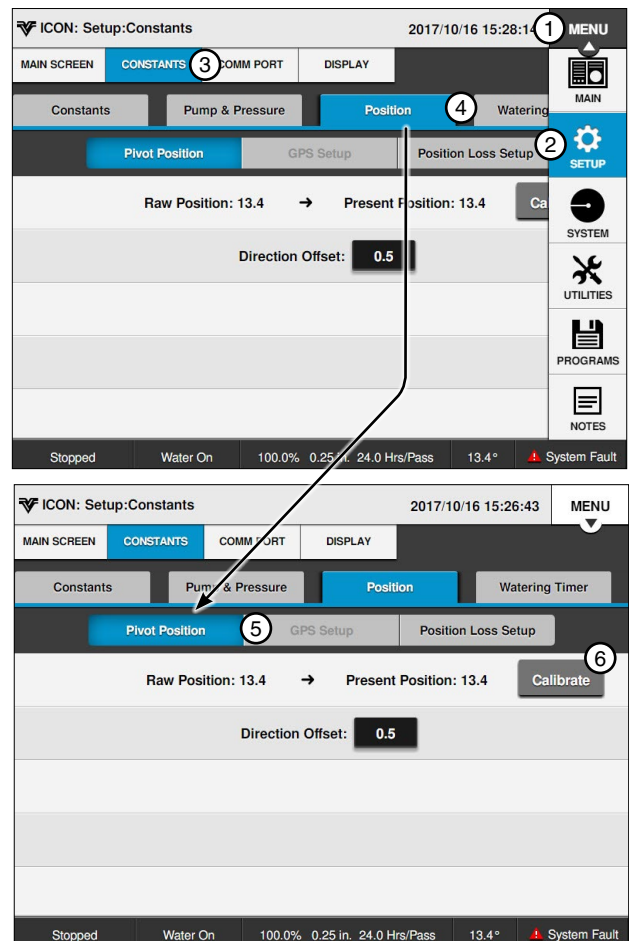

Figure 25-1 1. Menu 4. Position
1. Push **Menu**, **Setup**, **Constants**, **Position** and **Pivot Position** to display the Position screen. Refer to Figure 25-1.